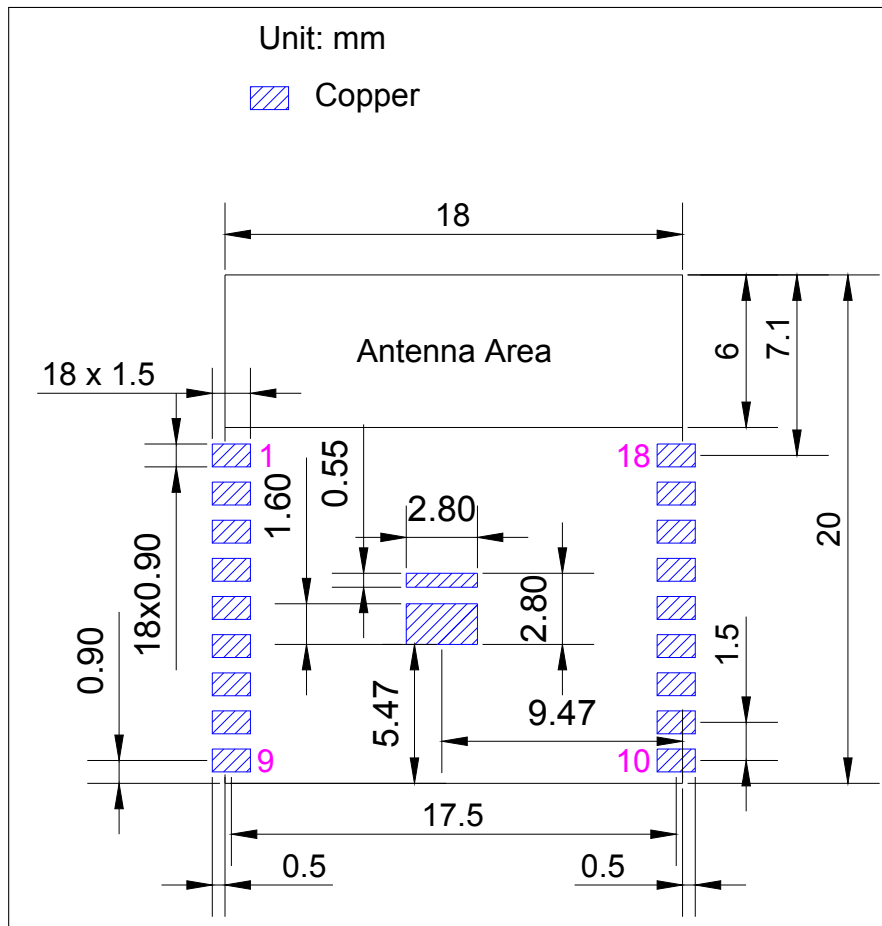
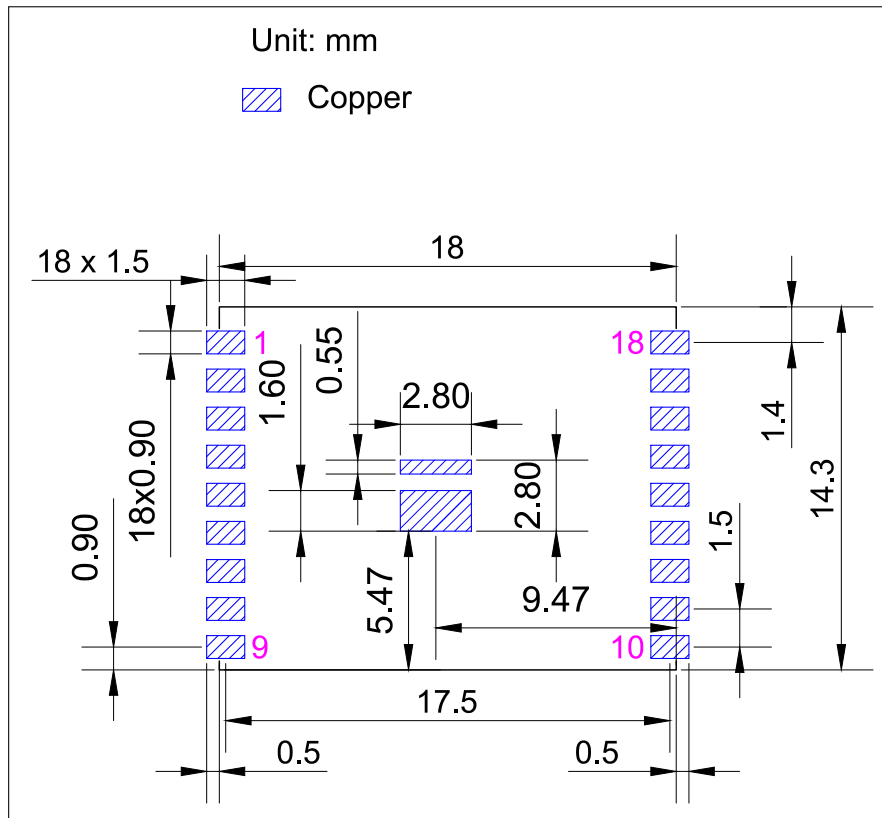

Figure 11: ESP8684-WROOM-02C Recommended PCB Land Pattern
Figure 12: ESP8684-WROOM-02UC Recommended PCB Land Pattern
- Figures for recommended PCB land patterns with all the dimensions needed for PCB design. See Figure 11 ESP8684-WROOM-02C Recommended PCB Land Pattern and Figure 12 ESP8684-WROOM-02UC Recommended PCB Land Pattern.
- Source files of recommended PCB land patterns to measure dimensions not covered in Figure 11 and Figure 12. You can view the source files for ESP8684-WROOM-02C and ESP8684-WROOM-02UC with Autodesk Viewer.